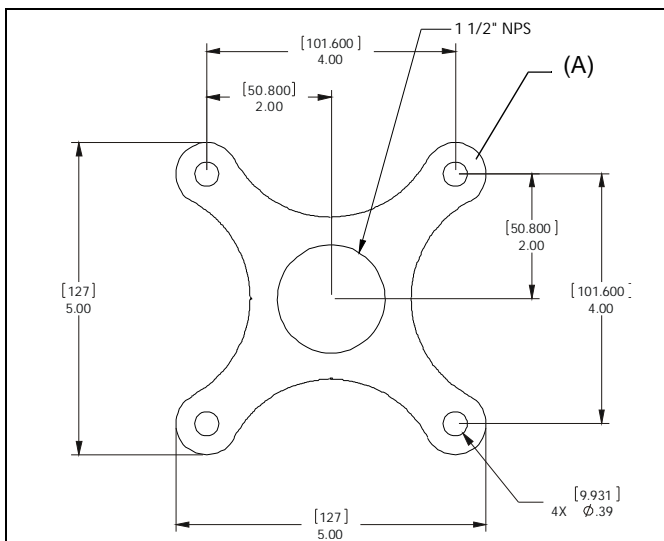

Figure 1
- Using the ceiling plate (A) as a template, mark mounting locations and drill 1/4" pilot holes at marked locations.
- Use 3/8" x 3" (minimum) Grade 2 lag screws (not provided) to secure ceiling plate (A) to the joists or wood framework, using the bolt holes noted. (See Figure 1) for dimension details.